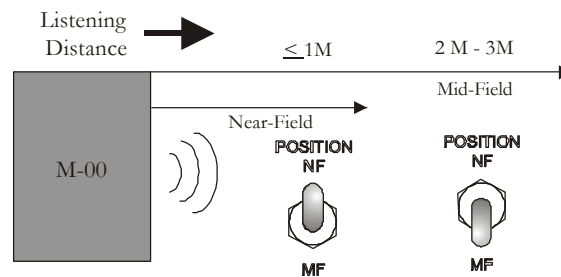

Fig. 4 Position Control Settings Diagram
POSITION SWITCH: Close-in (“near-field”) monitoring reduces the impact of room acoustics on the signal, and provides great detail. Mid-field listening reveals aspects of recorded ambience and is more representative of end-use. However, a speaker’s upper frequency power response changes with distance, due to room influences and air absorption. The M-00 provides a switch marked “NF/MF”, that optimizes the speaker’s response for the desired listening distance (Figure 4). Near-field (NF) is defined as 1 meter or less from the monitor to the listener, and this setting gives a gentle reduction in power output above 3 kHz, with a maximum cut of -3 dB at 20 kHz.